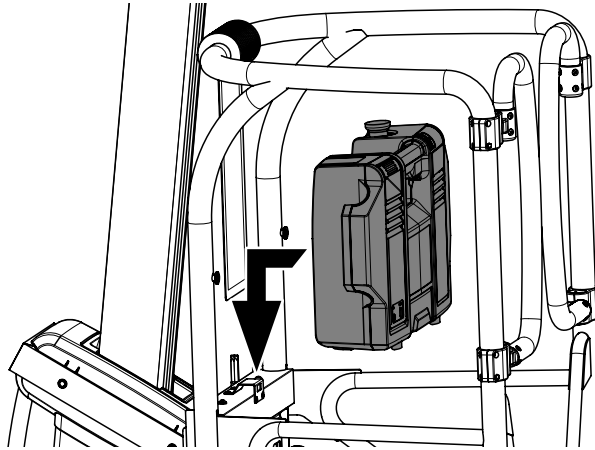

Figure 3-12. Powerpack positioned and latched into place
- Place the powerpack (optional equipment) against the platform uprights, closest to the mast, and slide it down until it clicks, indicating it is fully seated (see Figure 3-12.).